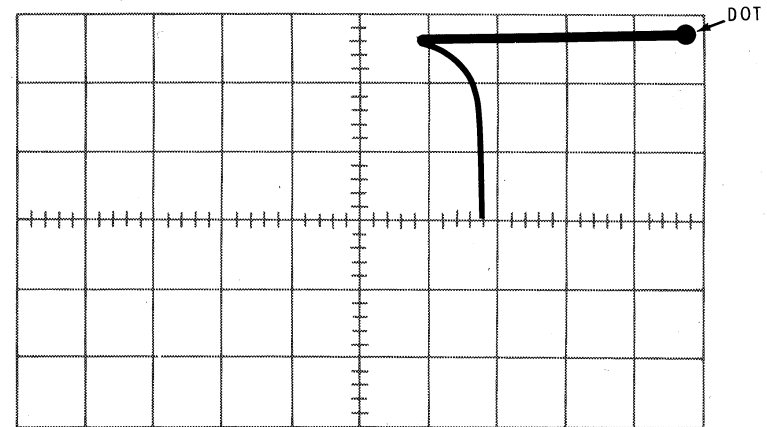

Figure 1-15
- () Position the dot in the upper right-hand corner of the screen. See Figure 1-15.
- () Turn the SWEEP VOLTAGE control clockwise until a line appears as in Figure 1-15. This is reverse breakdown of the C to E junction.